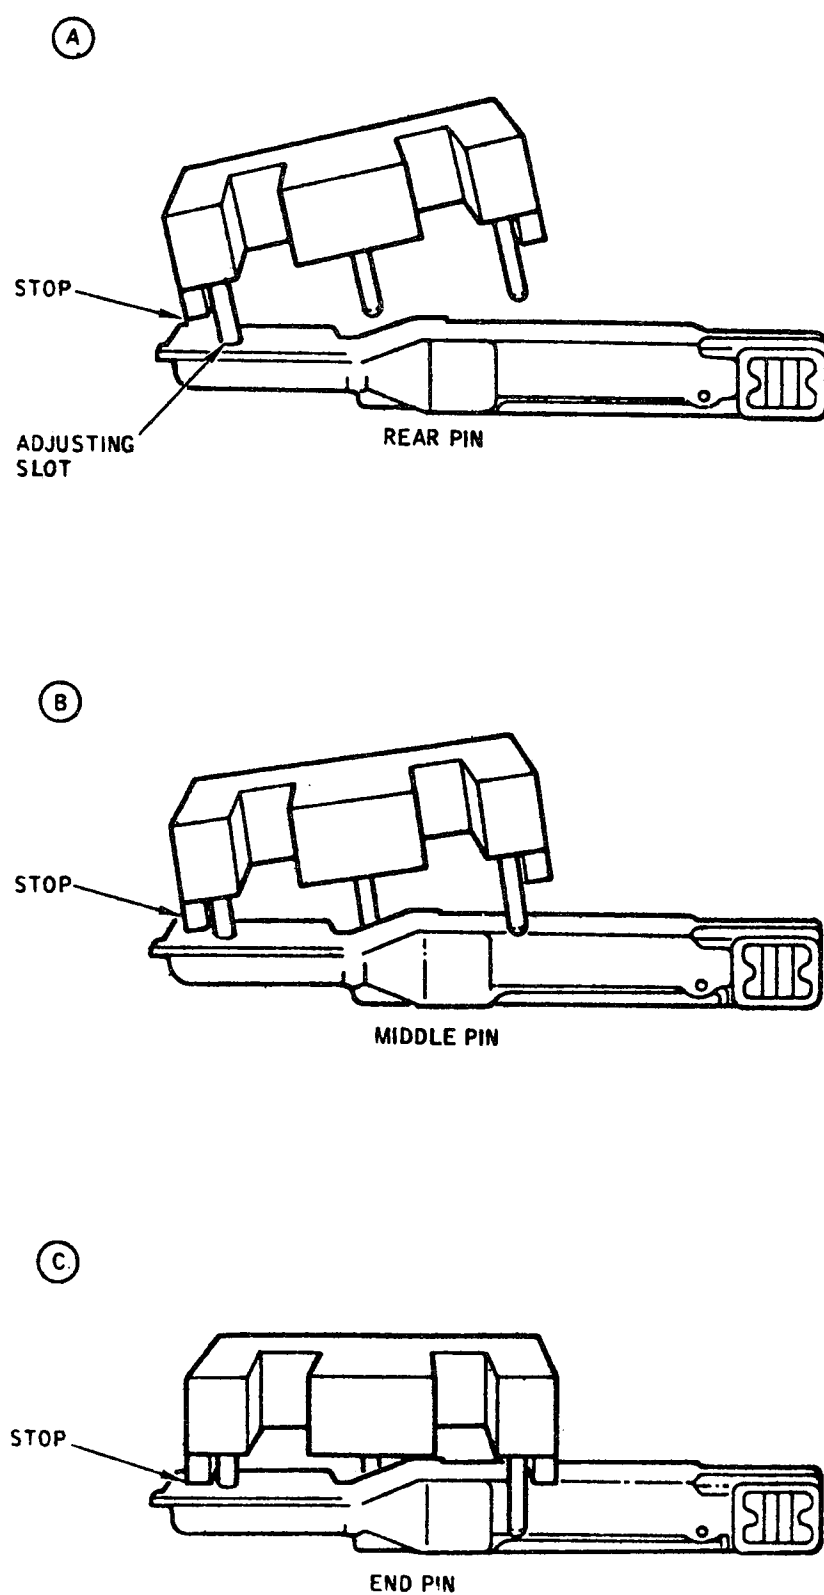

Figure 4-3. Head Camming Tool Installation
5. Install the head camming tool on the head assembly to be replaced as shown in Figure 4-3.
1. Install the head camming tool on the head assembly to be replaced, as shown in Figure 4-3.